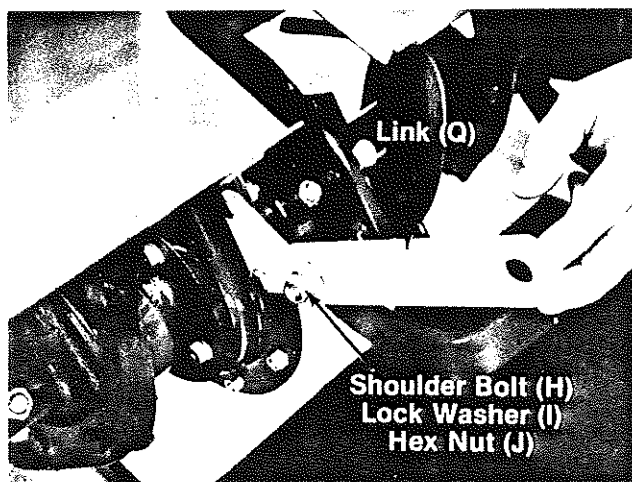

FIGURE 5.
4. Assemble one link (Q) to the tiller mounting bracket. See figure 5. Shoulder bolt (H) enters from the link side and is secured with lock washer (I) and hex nut (J).